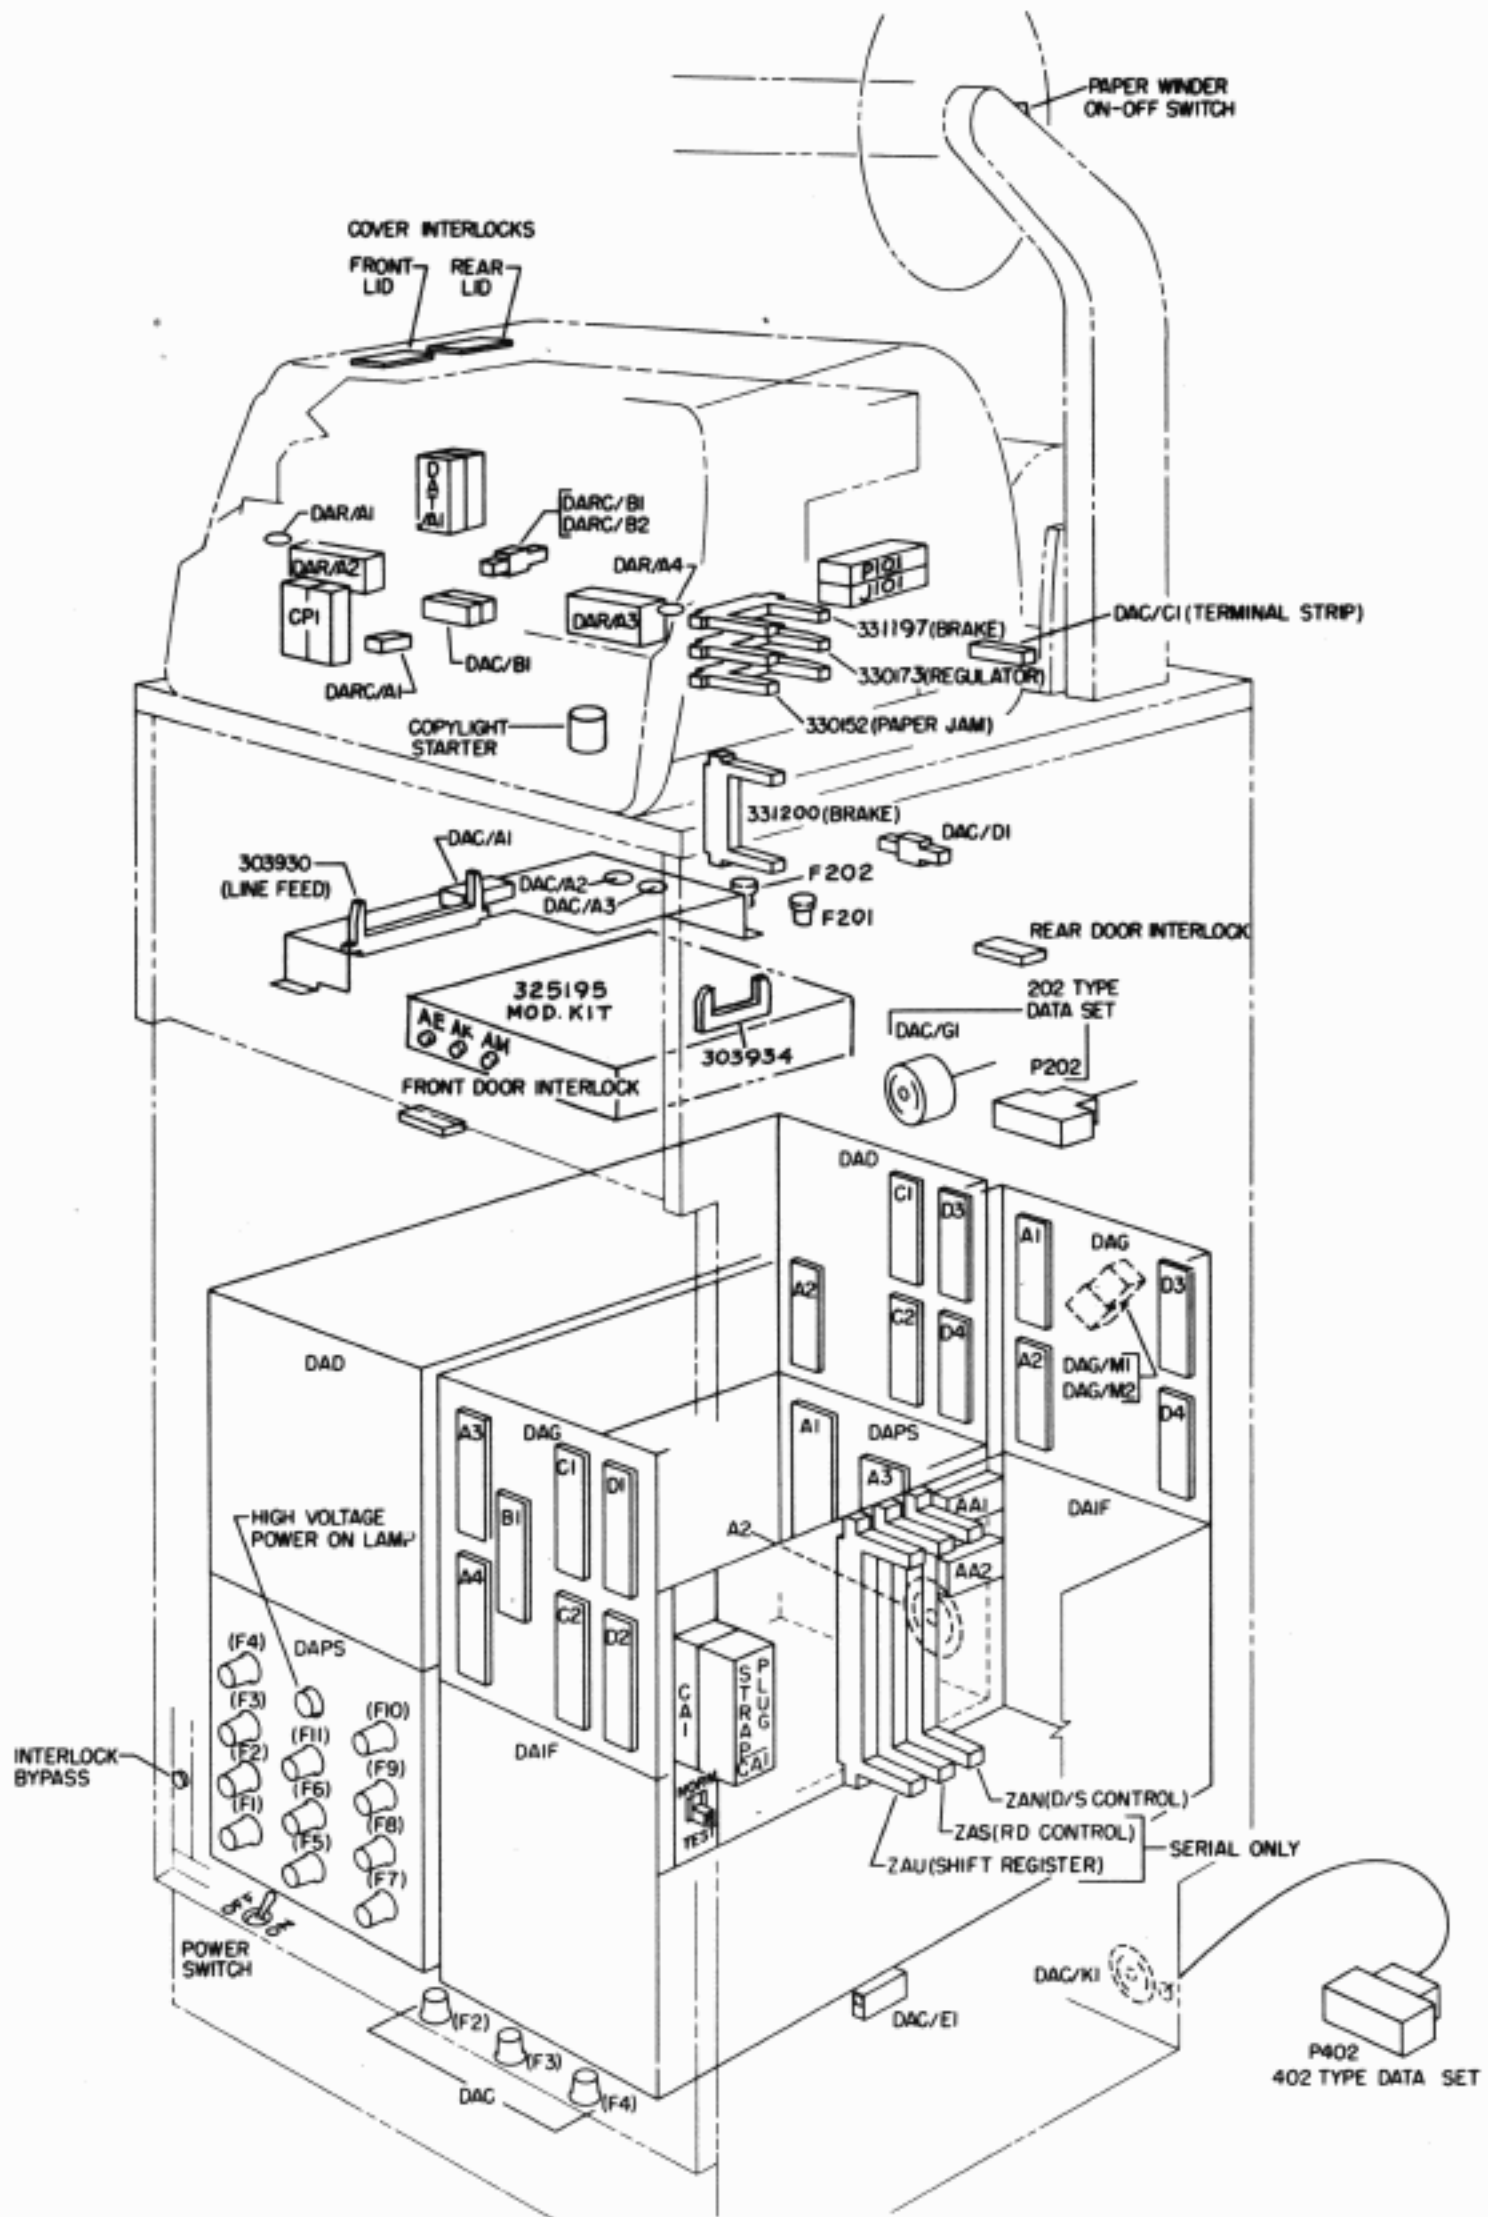
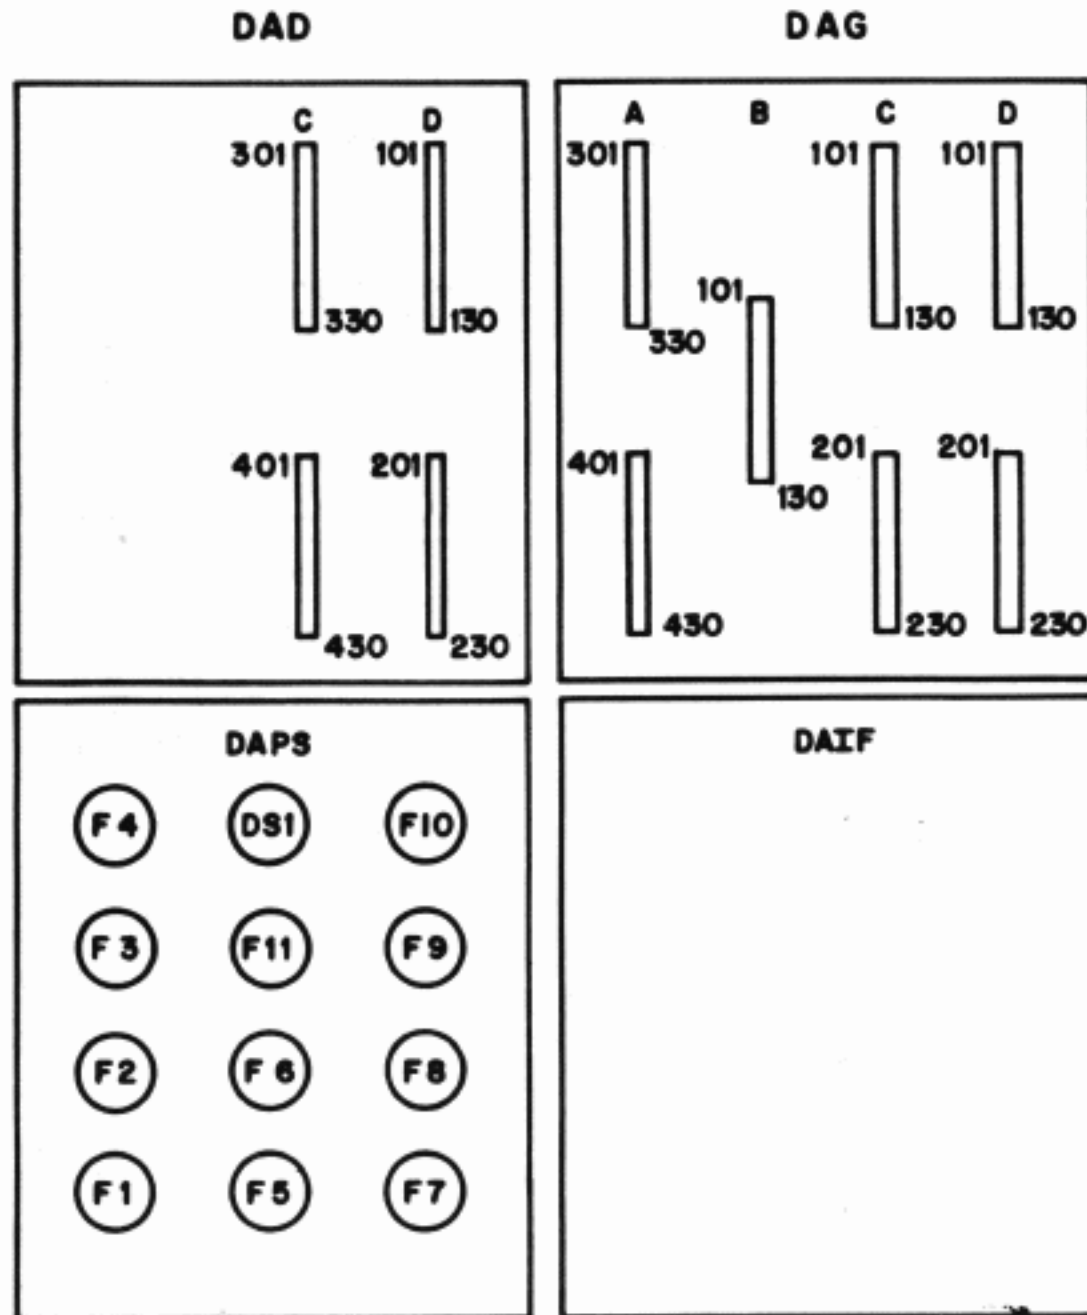

Figure 3 - Positioning of Connectors on INKTRONIC Page Printer (RO)
Figure 4 - Front Connectors for INKTRONIC (RO) Modules
4.04 Figure 3 shows the location of fuses, connectors, switches, etc, designated in the chart, and Table G lists the circuit card locations. Figures 4 through 15 show the test points and connector pins at the front and rear of the DAG and DAD modules. Signals should be checked at these points only, as described in the troubleshooting chart.